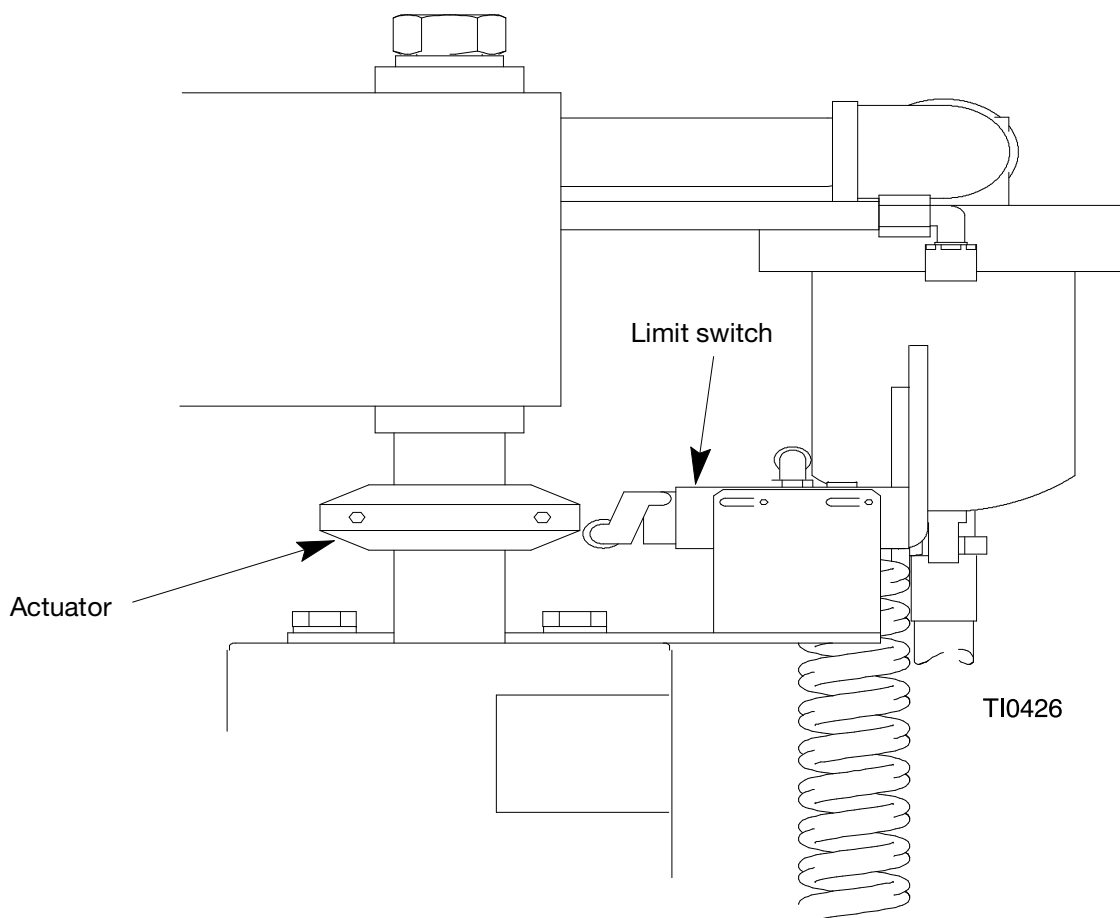

FIG. 7
- b. Verify that the Follower Plate (D) lowers to the limit set point: a level between 1 to 4 in. (25.4 to 101.6 mm) from the bottom of the drum.
- c. Adjust the low limit switch to activate at the level defined in step 21.b. See FIG. 7.